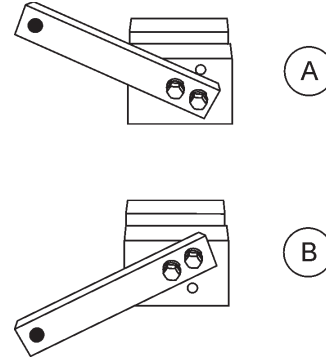

Figure 2. Adjustment Fixture Arm Position
2. Ensure the adjustment fixture arm is in the proper position (up or down) for your trowel arm rotation. Refer to Figure 2 and the Notice below for a guide.